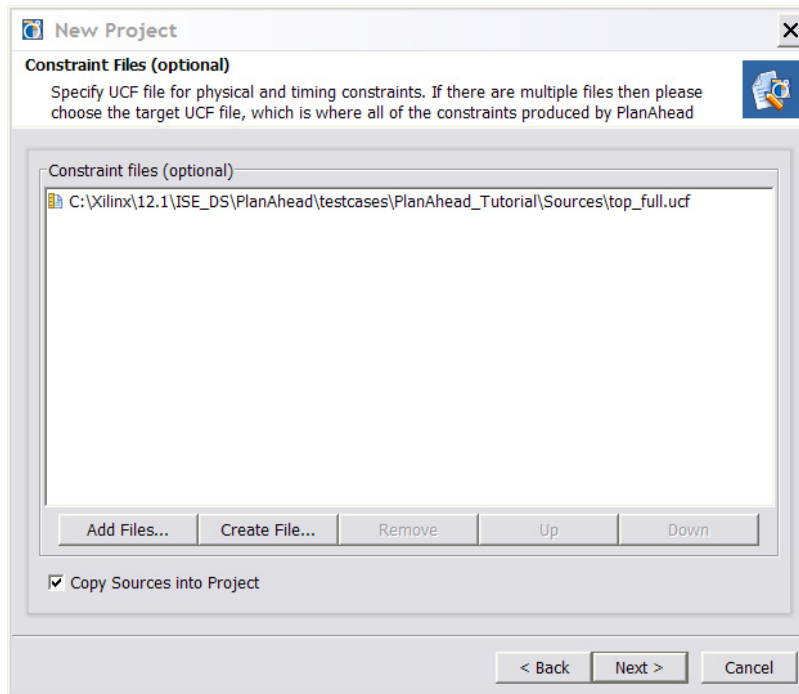

Figure 5: Specifying the UCF File
- 1-1-8.** On the Constraints File page, click **Add Files** and specify the UCF located at `<Extract_Dir>\PlanAhead_Tutorial\Sources\top_full.ucf` (Figure 5).